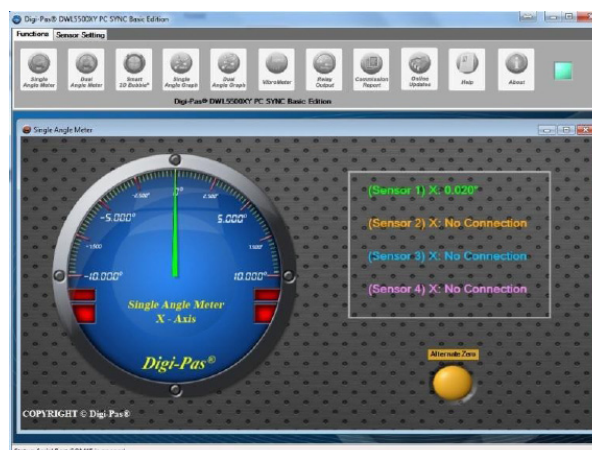

Figure 26. Interface of the PC SYNC software with Single Angle Meter feature
4. Screen as illustrated in Figure 26 appears. The feature icons are enabled and ready for selection (e.g. Single Angle Meter, Dual Angle Meter...). Following is an example when Single Angle Meter feature icon is clicked.